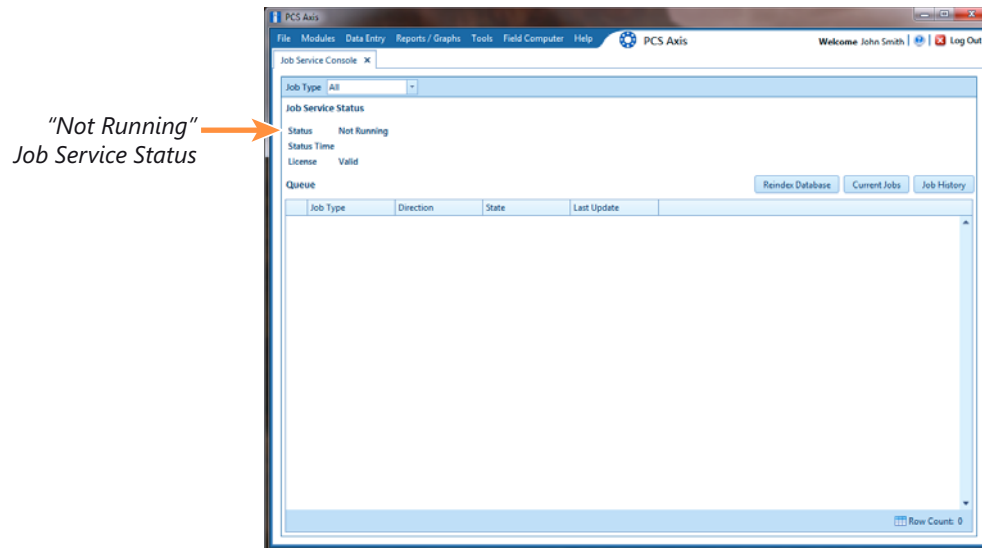

Figure 11-4. Job Service Status
If the message *Not Running* displays in the *Status* field of the Job Service Console as shown in the following figure (Figure 11-4), use the procedure in this section to restart the PCS Axis Job Service. PCS Axis Job Service monitors the job queue, initiating jobs as they become available.
- c In PCS Axis, verify the message *Running* displays in the *Status* field of the Job Service Console (Figure 11-4, page 489).